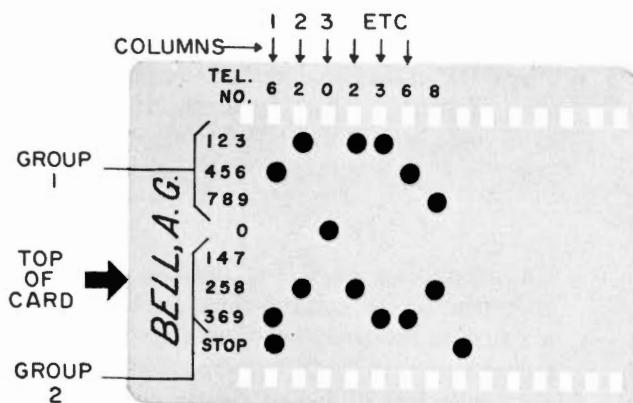

Fig. 3 – 7-Digit Card Coded for Telephone Number
3.03 Coding instructions for cards (Fig. 3 and 4) are as follows:
- Write the name and the desired telephone number in the spaces provided as shown in Fig. 3 and 4. Convert the two exchange letters to numbers by referring to your telephone dial. (For example use 2 for A or B or C.)
number in group 1 and punch out the perforation with a pencil or ball point pen. (In Fig. 3 the number is 6.) In the same column locate the same number in group 2 and punch out the perforation. If not already removed, punch out the STOP in this same column. Repeat this procedure for each digit in the telephone number. If the number is zero, only one hole is punched. In the column immediately following the last digit, punch out the STOP hole (this hole will stop the card and immediately prepare the telephone for talking even though the card still has some distance to travel).